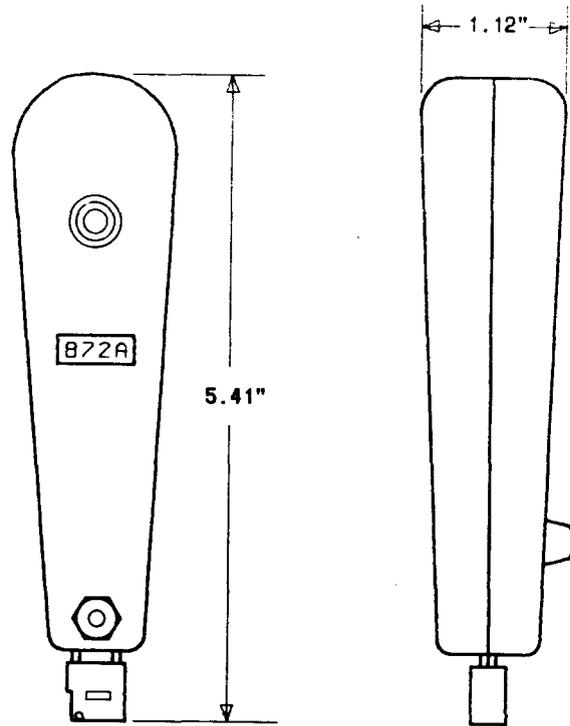

Fig. 17—872A Insertion Tool
2.19 **872A:** The 872A insertion tool (Fig. 17) consists of a flexible, restrictive and nonrestrictive blade. It is used to correct faulty 78-type terminals in the COSMIC main distributing frame.